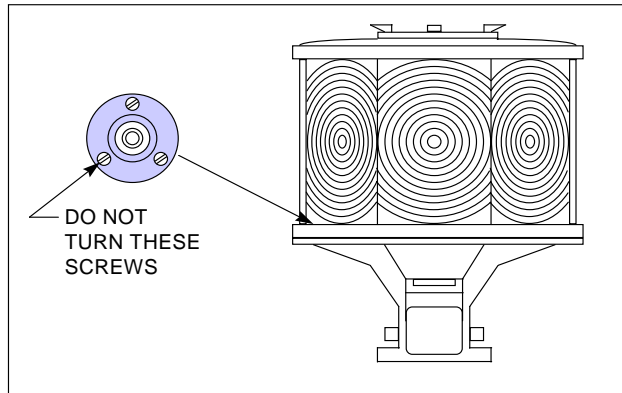

Figure 3-31
- e. Adjust the leveling nuts up or down until the bubble is centered in the circle on the level, as shown in Figure 3-31.
- (1) Unscrew the 4 capscrews, which secure the terminal plate to the beacon base and tilt the terminal plate down.